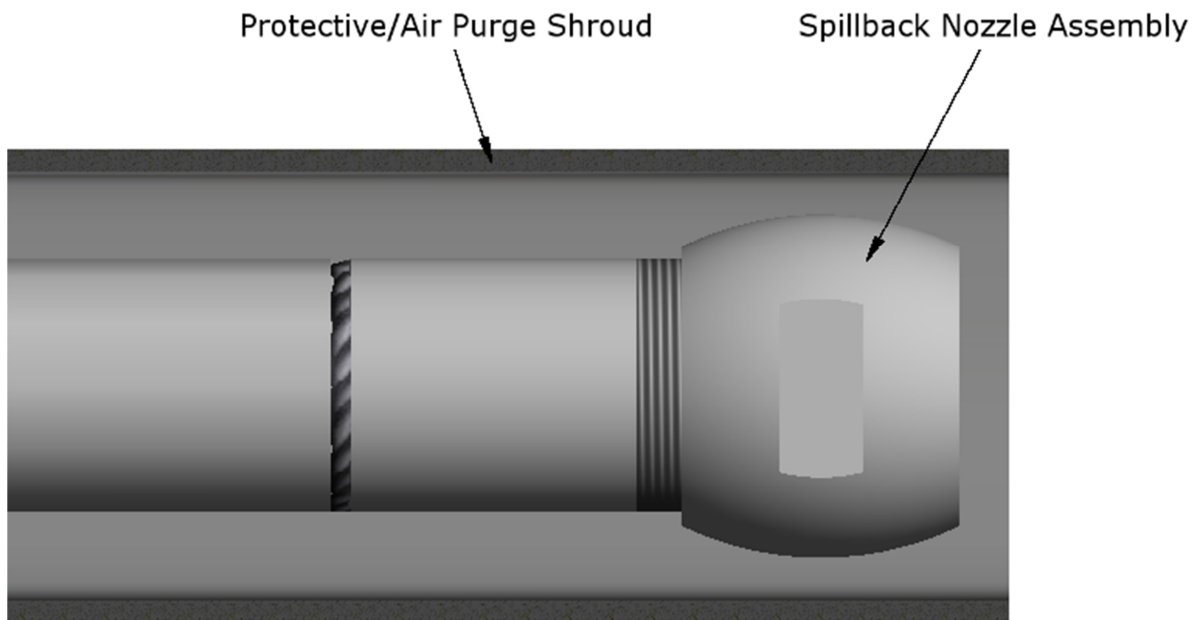

Figure 4: Nozzle Tip and Protective Shroud
- Figure 4: Nozzle Tip and Protective Shroud 7
- Protective Shroud: The protective shroud is a pipe that covers the lance. (See Figure 4 & 5)
- Air Purge Shroud: The air purge shroud is the same as the protective shroud with the addition of an inlet to provide a constant flow of purge air to cool the lance and reduce buildup. (See Figure 4 & 5)